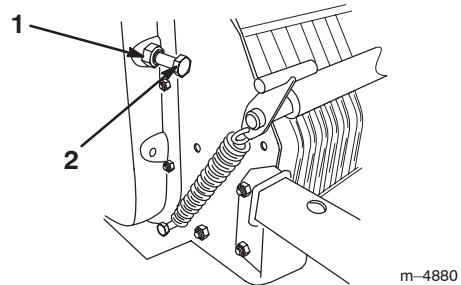

Figure 9
2. Loosen the jam nut on the chain adjusting screw (Fig. 9).
3. Turn the screw in by hand until you feel resistance (Fig. 9).